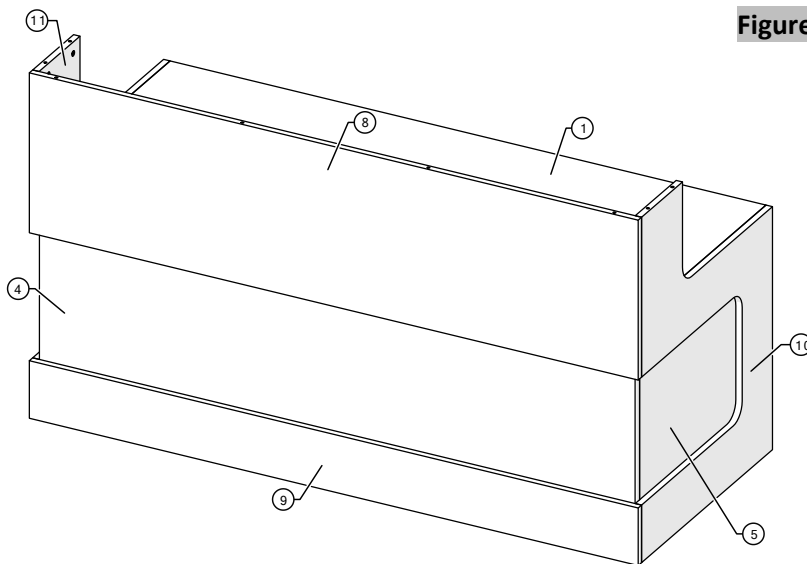

Figure 14
18. Position and align the assembled unit (border-upper, border-bottom, border-gable LH, and border-gable RH) with the corners of the desk (Figure 14).